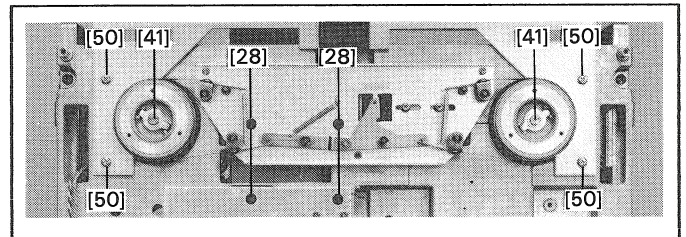

Fig. 21
- Unfasten the central screw [41] (Fig. 21) on both brake drums. Disengage the brake bands by pressing against the brake plunger and carefully lift the brake drums with the driver plate.